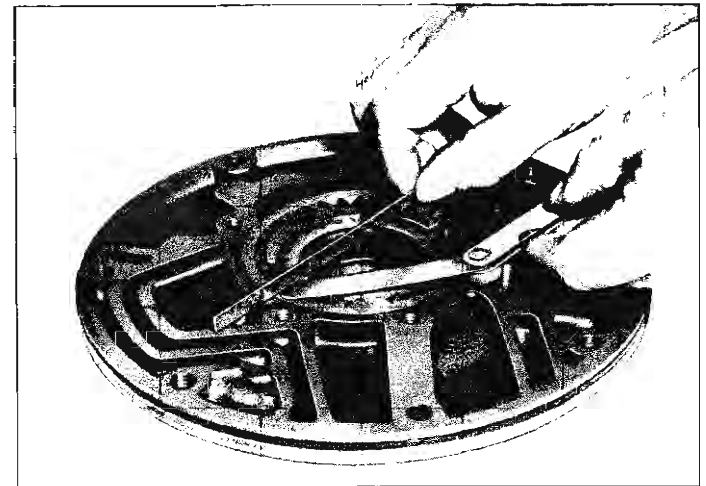

Fig. 24—Checking Gear End Clearance
- c. Gear end clearance (fig. 24) should be .0005"-.0015".